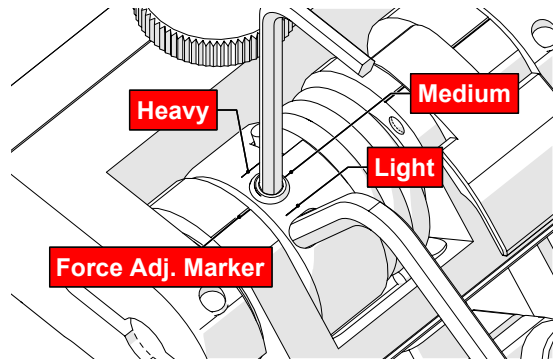

Fig. 145 - Choose desired tension
6. Gently apply pressure on the long leg of the 3 mm hex wrench until the force adjustment marker lines up with the desired spring tension. While keeping the markers in line, tighten the force adjustment screw (*Fig. 145*).